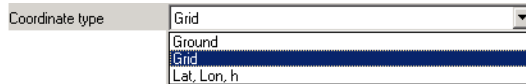

Figure 3-88. Coordinate Type List
- Select the Coordinate type (Figure 3-88).